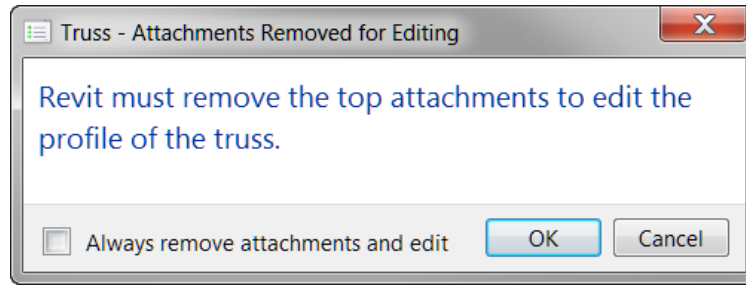

Figure 227 - Example of a task dialog using the DNSMA checkbox as an "Always..." checkbox for one choice
- See Figure 227 for an example of a task dialog with OK and Cancel buttons